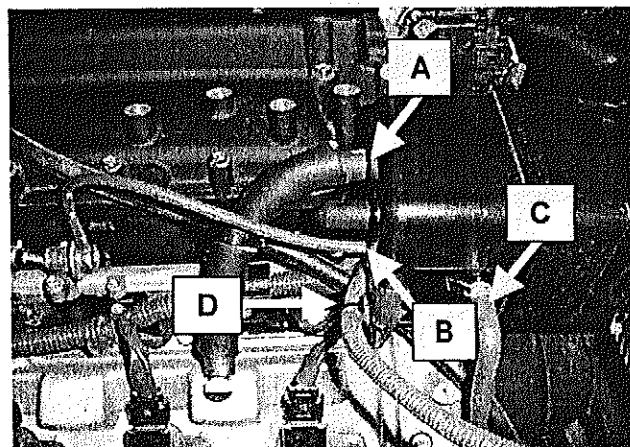

Figure 41
40. Connect the cam cover breather hose (Arrow A), fuel pressure regulator hose (Arrow B), and power steering idle-up hose (Arrow C) to the hose nipples on the intake air connector (Figure 41).
41. Connect the MAF connector to the MAF sensor. Insert the MAF sensor wire loom clip into the mount on the intake air connector (Arrow D, Figure 41).